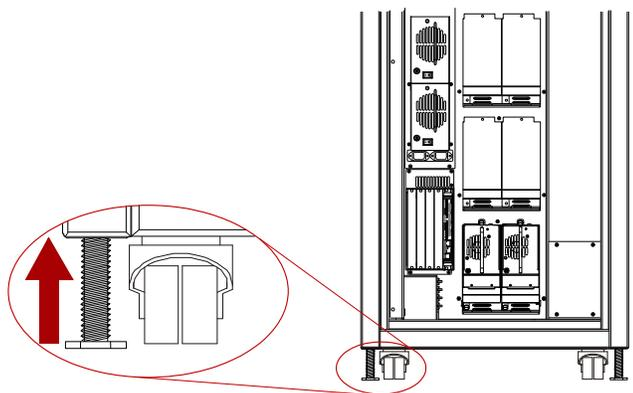

Figure B-5: NEO 8000 Casters and Leveling Legs
4. Verify that all four **leveling legs** can clear the floor at the bottom of the ramp. If necessary, raise the legs until they can clear the floor (Figure B-5).
- d. Use the adjustable wrench to lower the two **leveling legs** (Figure B-5) until they are tight against the pallet.
- a. Use the adjustable wrench to lower the two **leveling legs** (Figure B-5) until they are tight against the pallet.